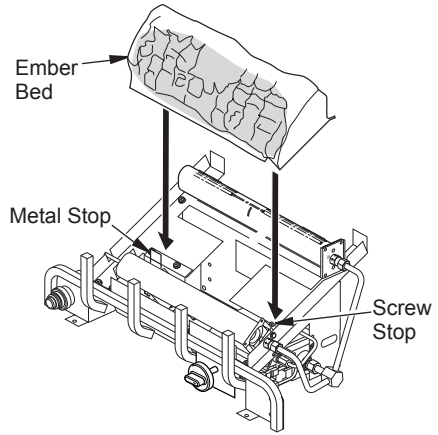

Figure 18 - Installing Ember Bed
1. Place ember bed in center of base assembly as shown in Figure 18. Ember bed must rest against metal stop on left and screw on right. It is very important that ember bed be seated correctly.